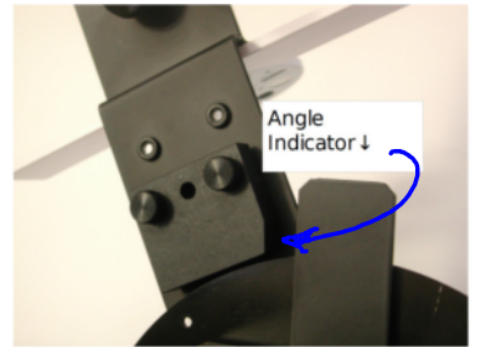

Fig. 2: Bottom View - Beveled Stop
3. Mount the Beveled Stop Piece on the bottom of the Light Sensor Arm with the two supplied bolts (see Figure 2). Position the beveled edge so it will hit against the angle indicator on the spectroscopy table.